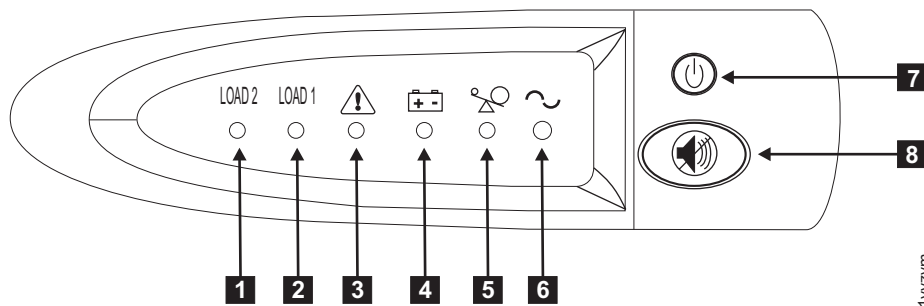

Figure 239. 2145 UPS-1U front-panel assembly
12. To turn on the 2145 UPS-1U, press and hold the on/off button (**2** in Figure 239). On some versions of the 2145 UPS-1U, you need a pointed device, such as a screwdriver, to press the on/off button. The 2145 UPS-1U undergoes a self-test, taking approximately five seconds, before the power-on indicator **1** and the load indicators (**7** and **8**) light up permanently to indicate that the 2145 UPS-1U is supplying power to the SAN Volume Controller. The 2145 UPS-1U begins to charge its battery while in normal mode.